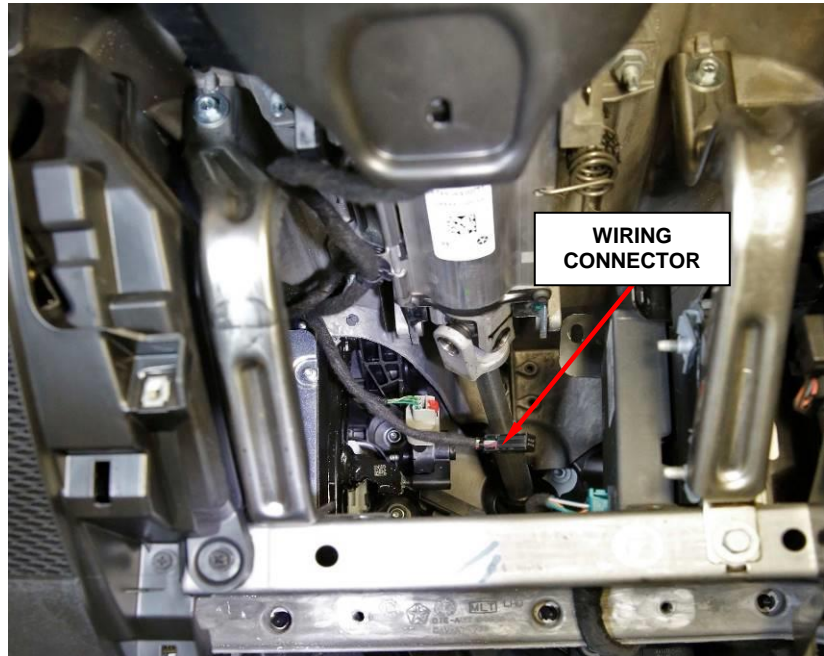

Figure 9 – ESL Module Connector
15. Allow wire to drape down and remove friction tape and repair the damaged wire/s using splice clip(s) and heat shrink (Figure 9).